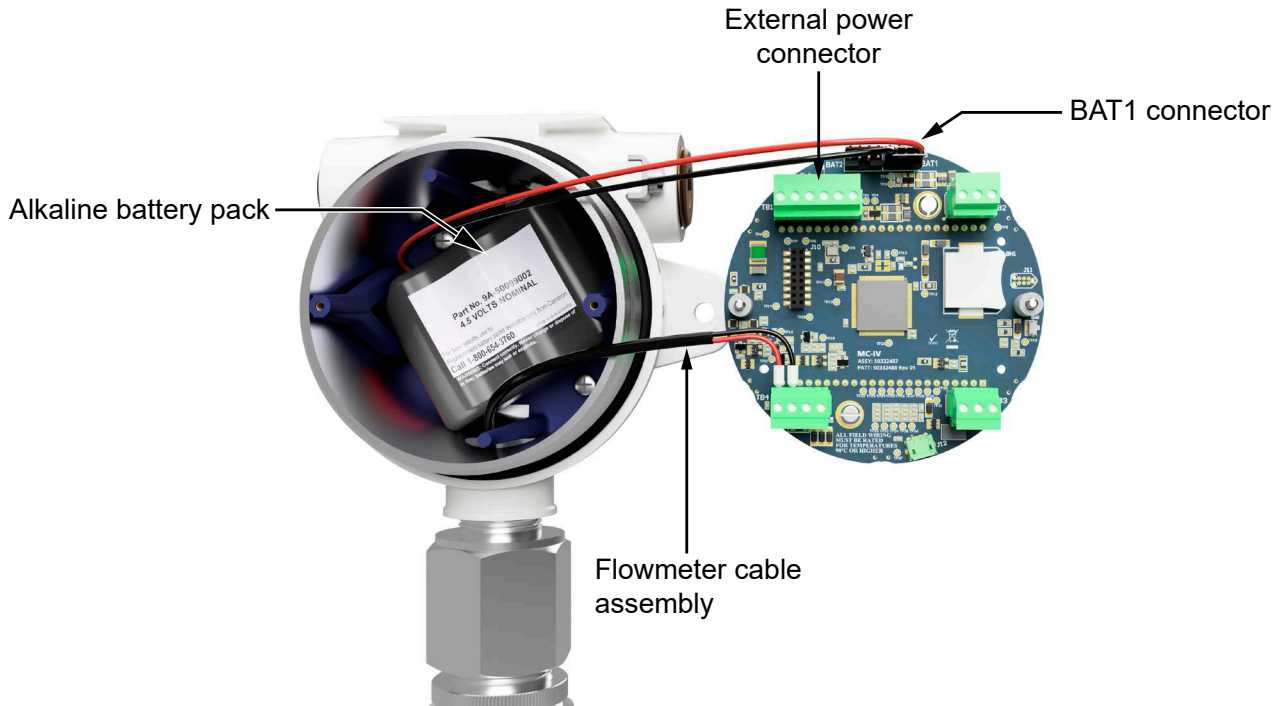

Figure 4.4—Removal/replacement of alkaline battery pack
4. Loosen the battery retaining strap, disconnect it from the BAT1 connector on the circuit assembly, and remove the battery from the enclosure (Figure 4.4, page 84).
5. Install the new shrink-wrapped battery pack in the same position as the original battery pack as shown in Figure 4.4, and secure the battery retaining strap to hold the pack tightly in place.